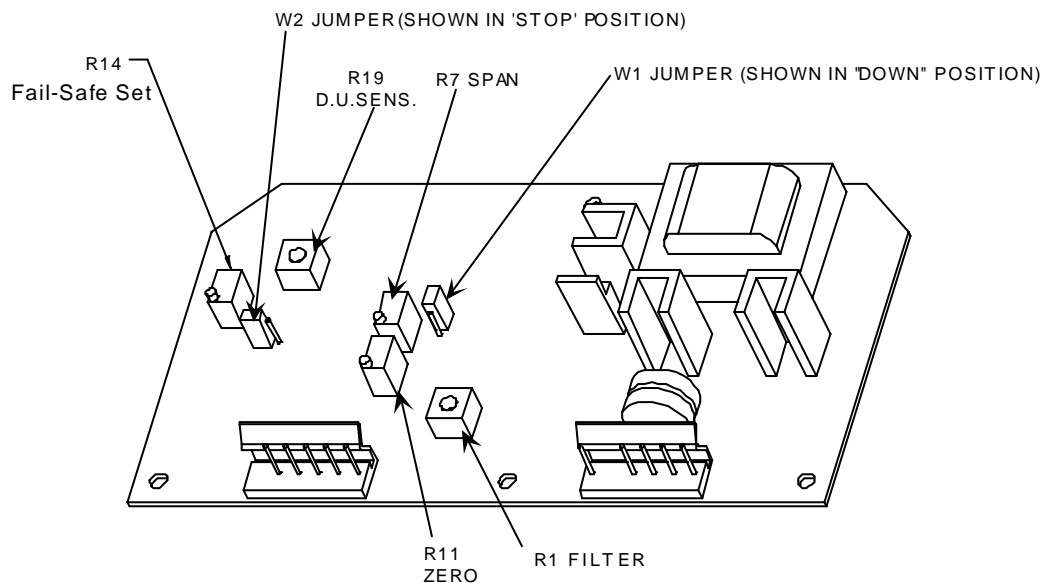

Figure 4-5 Motor Positioner Board
2. Remove jumper W2 from the circuit board and set it aside for later replacement. (See Figure 4-5.)